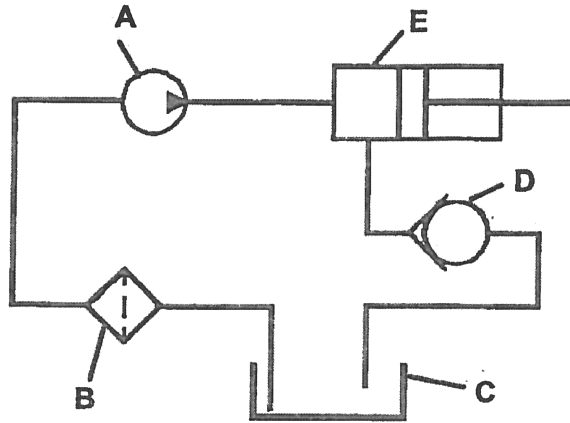

FIGURE 3
5.2 Refer to FIGURE 3 of the line diagram of a hydraulic system below and label the different parts (A–E) as indicated. Write only the answer next to the letter (A–E) in the ANSWER BOOK.